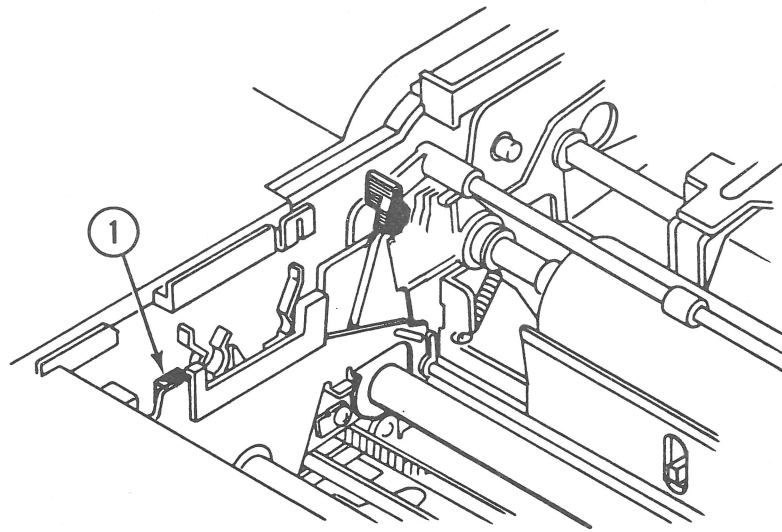

FIGURE 11
3. Connect the multimeter between pins 7 and 8 of the removed connector, and alternately depress and release the color ribbon detect switch (Figure 11, #1).